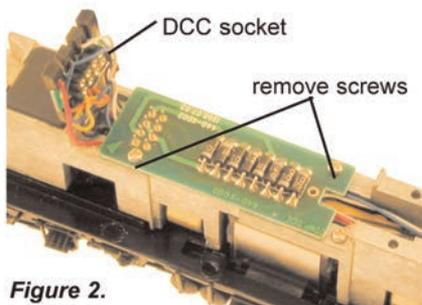

Figure 2.
2. Unplug the manufacturer's DCC socket from the pins on the factory board. Remove the two screws that hold the board in place. (*Figure 2*) Lift out the factory board and save the two screws for future use.